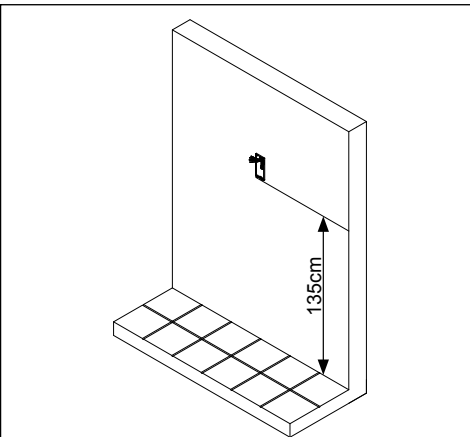
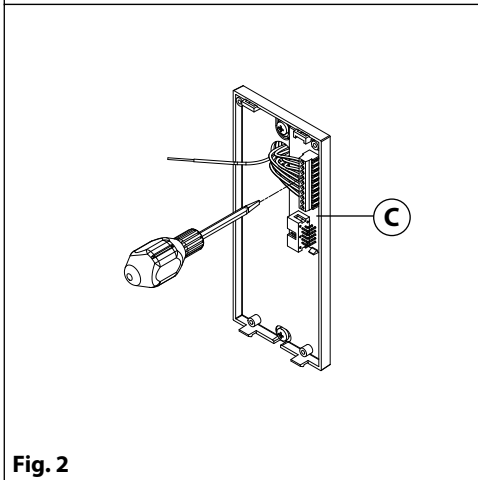

Fig. 3
Fig. 2
- Place the back plate of the intercom against the wall at approximately 135cm (**Fig. 2**) above finished floor level, then mark the fixing holes taking into account that the cable group **(A)** must feed into the opening **(B)** (**Fig. 3**).
- As shown in **Fig. 3**, fix the back plate of the intercom to the wall feeding the cable group **(A)** through opening **(B)**.